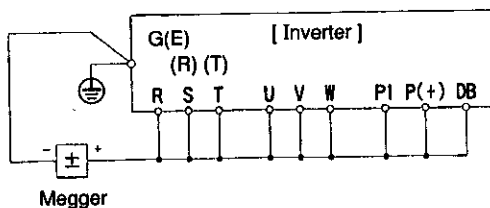

Fig.12-4-1 Megger test
(1) Main circuit
- ① Use a DC 250V megger for 200V series and a DC 500V megger for 400V series Inverters. If 200V series Inverters are tested using a DC 500V megger, accurate measurements may not be possible due to leakage current as a result of voltage characteristics of built-in surge absorber at the main circuit power supply (input).
- ② Disconnect all wires that are connected to terminal board of the main and control circuits and to external circuits.
- ③ Connect main circuit terminals R, S, T (R,T), P1, P(+), DB, U, V and W with a common wire as shown in Fig. 12-4-1.
- ④ Carry out the megger test between the main circuit common wire and the ground (ground terminal G(E) only.)
- ⑤ The condition is normal if the megger shows a resistance of 5MΩ or more.